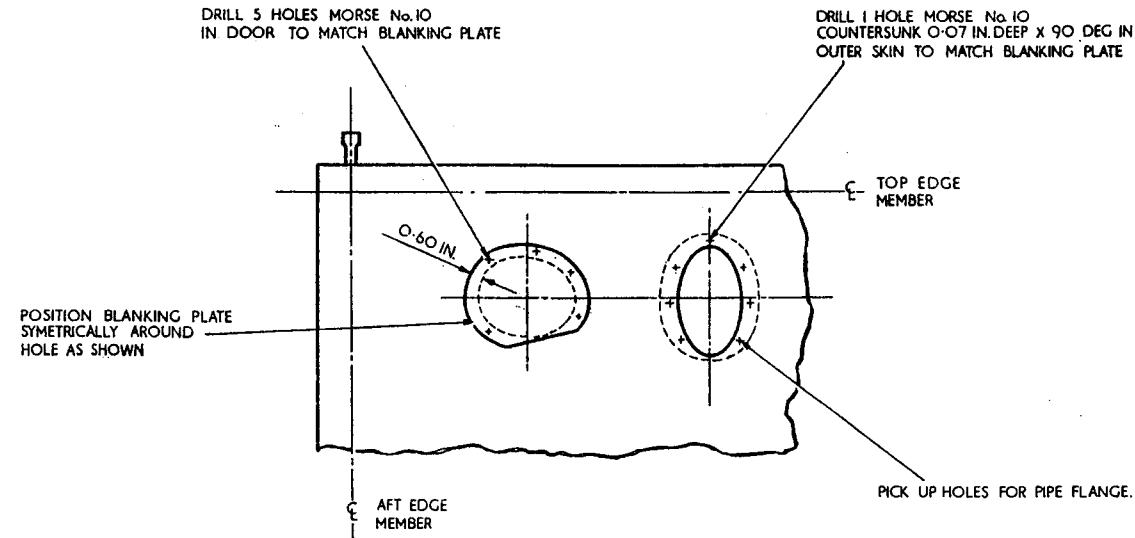

Fig. 2 Fitting blanking plates to starboard radio bay access door
- (1) Remove the starboard radio bay access door.
- (2) Remove the port and starboard link containers.
- (3) Remove the starboard outboard case chute from the aircraft, and the starboard inboard case chute from the starboard radio bay access door.
- (4) Modify the starboard radio bay access door as shown in fig. 2 and fit the blanking plates, Part No. A.260681 and A.260682, using bolts, Part No. AS.1242.I.C, nuts, Part No. A.G.S 2002.C.1 and washers, Part No. S.P. 15.C.